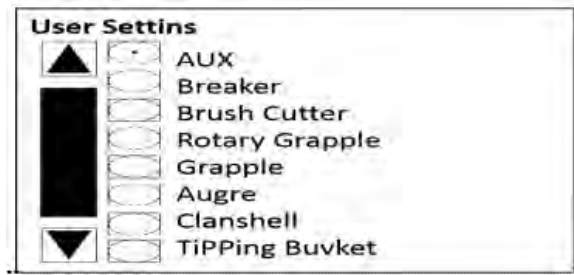

Figure 13
- 3) Press  to enter the **machine model selection** page (figure 13).